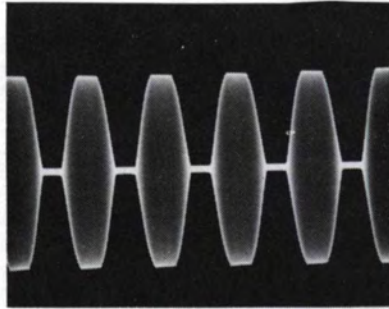

Figure 3-4. Squared Tone Modulation (95 Percent)
- C) Place the LIMITER switch in the MOD SET position; then turn the OUTPUT LEVEL control clockwise as far as necessary to produce the maximum desired modulation. (If greater output level is needed, repeat this procedure with the OUTPUT MAX dbm switch in the 22 position.) If the r-f envelope is being observed on an oscilloscope, its appearance should be similar to the waveform in figure 3-4.